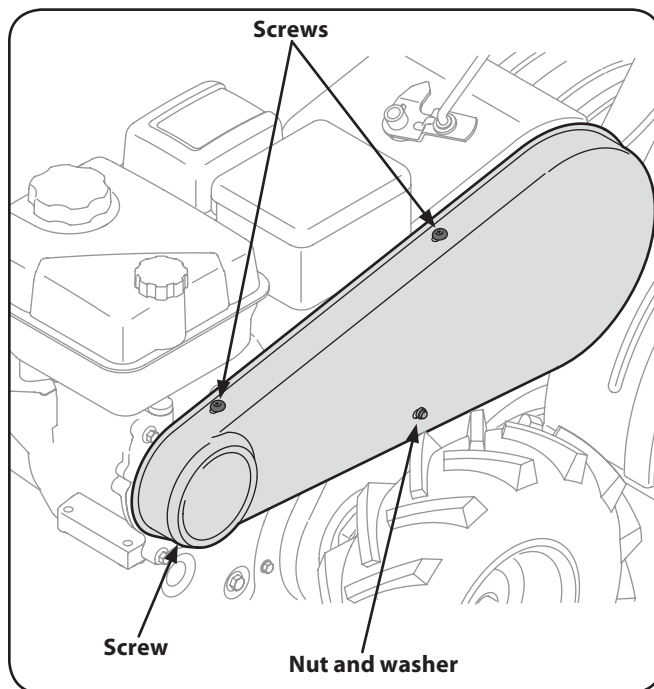

Figure 7-1
2. Remove the belt cover from the left side of the tiller by removing the two screws from the top of the belt cover. See Fig. 7-1.
3. Remove the hex cap nut and flat washer from the front side of the belt cover. Remove the hex head screw at the back of the cover. See Fig. 7-1.